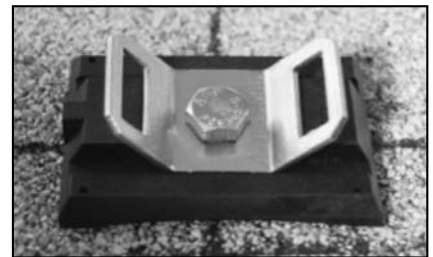

FIGURE 6
5. Bring the remaining strap end across the collector face, passing through both slots of the *Hold-down Strap Brackets* between collectors. Pull strap taut against the face of the collectors. Repeat strap termination at opposite end (refer to **Figure 6**).